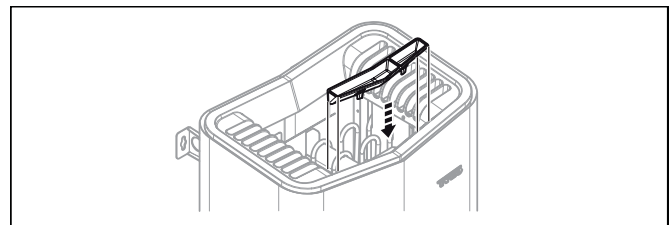

Figure 9: Fitting the fragrance holder/air humidifier
3. Attach the herb bowl/air humidifier (see Figure 9, Page 4).